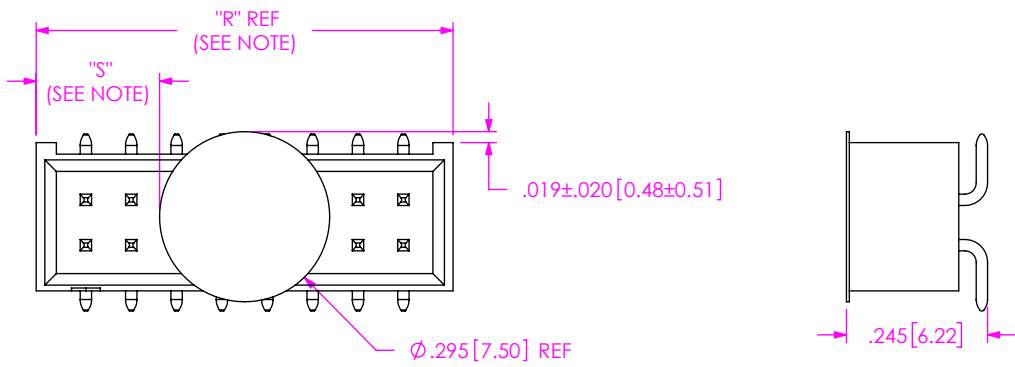

FIG 6
- K: POLYIMIDE FILM (SEE NOTE 11) (USE K-DOT-.295-.406-.005) (SEE FIG 6, SHT 3) (-SM OPTION ONLY)